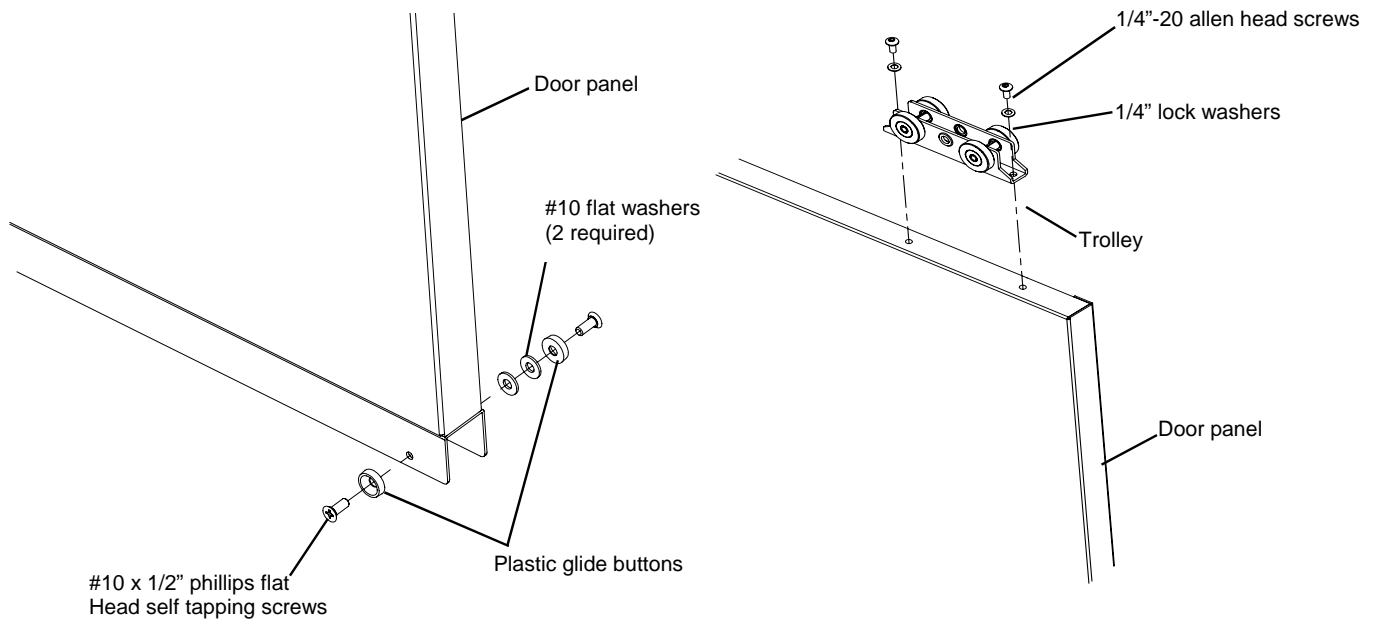

Figure 18
3. Assemble 2 plastic glide buttons to the bottom of the door panel. See figure 18. (*Note the use of two #10 flat washers on the inner side of the door panel. See figure 18*)
4. Assemble the two trolleys to the top of the door with 1/4"-20 x 1.00" allen head screws and 1/4" lock washers. See figure 18.